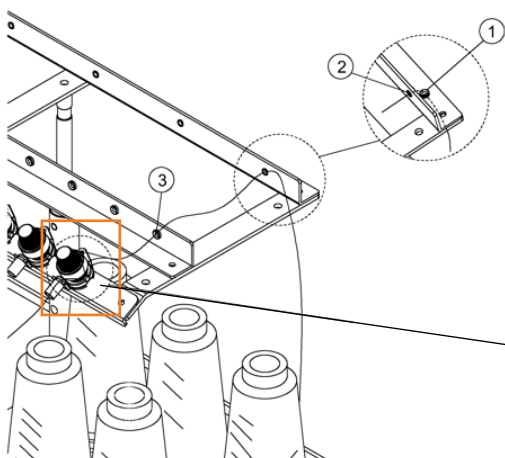

Figure 47
2. Pass the thread through the bottom eyelet of the back metal rack. See No. 1 in Figure 47 .
3. Proceed to pull the thread through the vertical eyelet. See No. 2 in Figure 47.
4. Proceed to pass through the continuing corresponding eyelet of the front metal rack. See No. 3 in Figure 47.
5. Feed the thread through the eyelet of the top row of tensioners. See No. 4 in Figure 47.
6. Pass thread in between of the tension plates (found underneath the tensioner knob). See No. 5 in Figure 47.